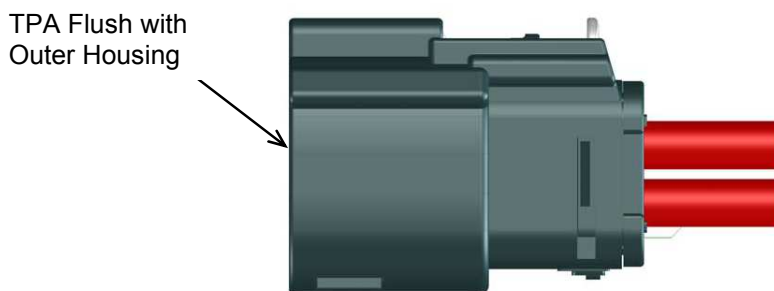

Figure 11: TPA in Locked Position
5. When all terminals and/or circuit plugs are in their proper location, push down on TPA until it clicks into place and is roughly flush or on same level as edge of outer housing (See Figure 11).